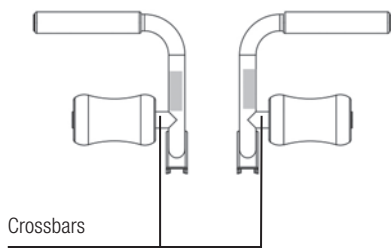

Fig. 1
2. Then attach Foam Pads on the Crossbars as shown in Fig. 1. Let dry before beginning to exercise with the Wing Attachments.
3. Insert the 2 Short Hitch Pins through the holes on the Tri-Grip Shaper Bar Brackets and the hole on the Rails as Shown in Figure 1. Make sure to securely attach each Tri-Grip Shaper Bar to each side of the frame before using.
2. With the small end of the Ab Crunch Board closest to the Handle Grip securely attach the appropriate Handle with 4 Flanged Hex Bolts using Hex Wrench provided. See Fig. 1 below.